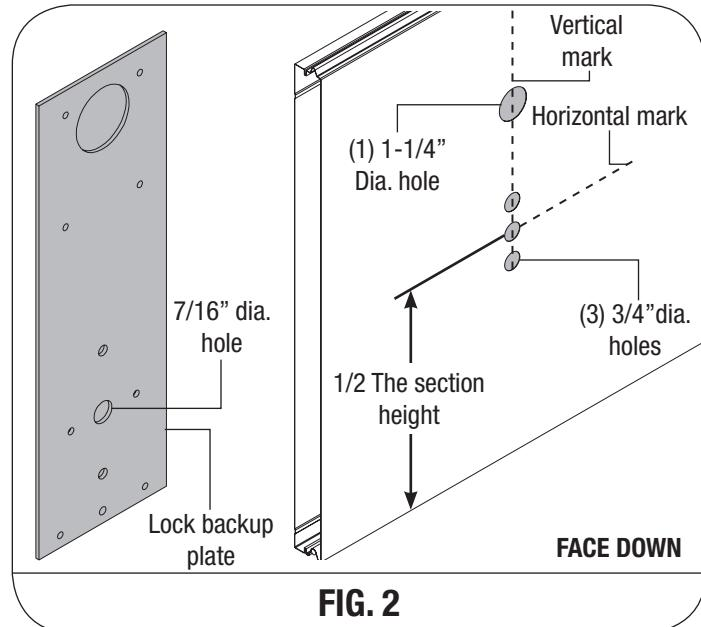

FIG. 2
**9800/9700/8300/8500/8700 & WOOD DOORS, (SEE FIG. 2):** Place the lock section face up on (2) padded sawhorses for a single car door or (3) padded sawhorses for a double car door. Locate the middle of the center stile, measure the distance from the end of the section to the middle of the center stile. Turn the section face down, transfer the measurement and mark a light vertical line, then mark a horizontal line at half the section height. Align the  $7/16$ " diameter hole of the lock backup plate at the intersection point of the horizontal and vertical marks, use the lock backup plate as a template to mark the (4) holes, remove the lock backup plate and drill the (3) bottom holes to  $3/4$ " diameter and the top hole to  $1-1/4$ " diameter, drilling all (4) holes completely through the section.